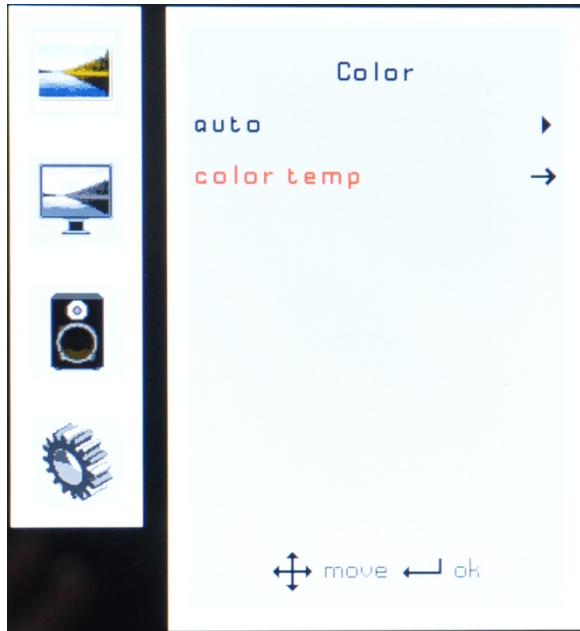

Figure 4-4: Color Settings
- Color** Provides options for color settings. (**Figure 4-4**)